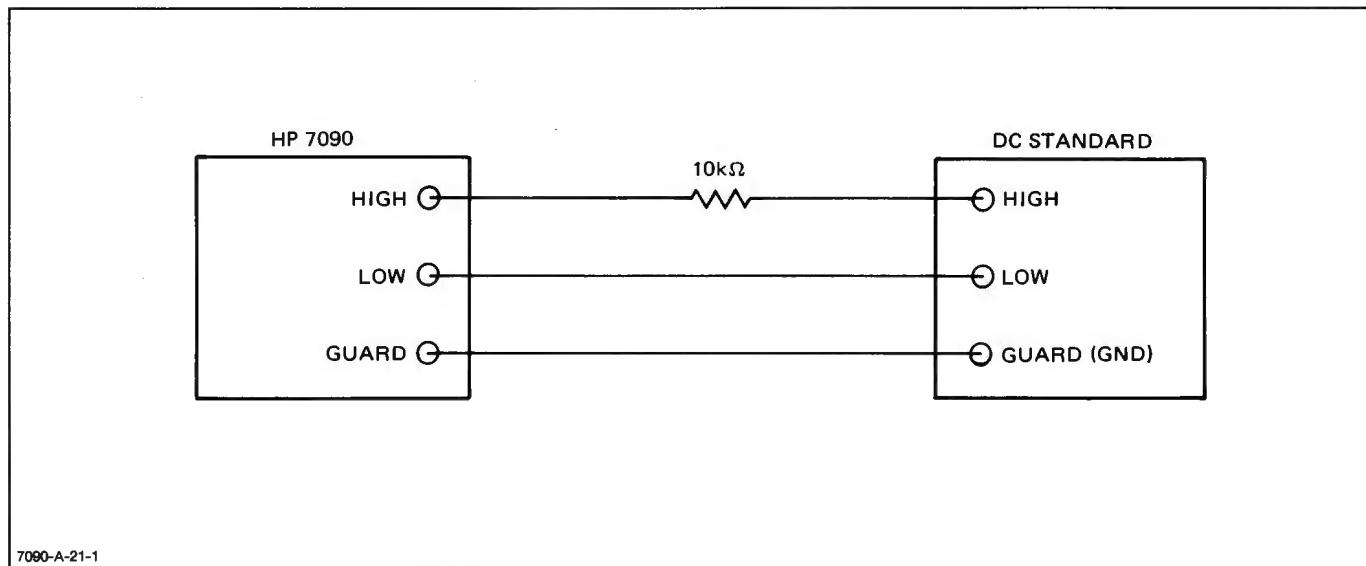

Figure 4-3. Input Impedance
- Set the HP 7090 line switch to OFF (O).
- Connect the dc standard to channel one of the HP 7090 as illustrated in Figure 4-3.